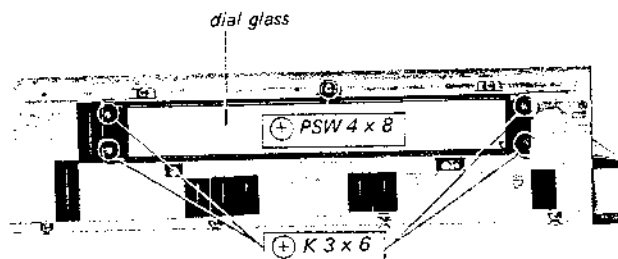

Fig. 2-4. Dial glass replacement
2. Remove the five screws as shown in Fig. 2-4.